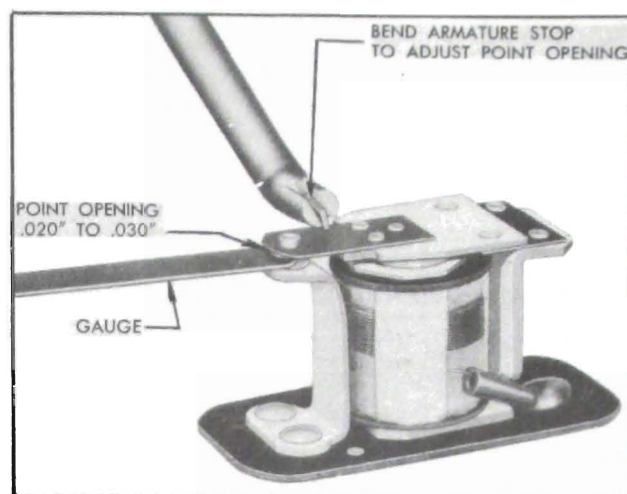

Figure 10-42—Relay Contact Point Adjustment
3. With armature free, check contact point opening with feeler gauges. Point opening should be between .020" and .030" and may be adjusted, if necessary, by bending the upper armature stop. See figure 10-42.